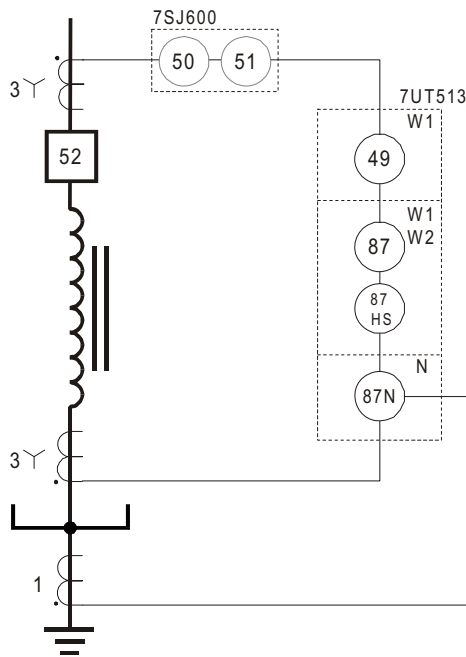

Figure 3.6 Reactor Protection for Three-Phase, Oil Immersed Type Reactor Bank
If the reactors are part of a three-phase, oil immersed type bank, CTs may be provided at each end of the winding and in the grounded neutral, as shown in Figure 3.6. If so, the differential elements (87, 87HS, 87N) can provide primary protection, while backup protection is provided by one of the thermal overload elements (49), the internal overcurrent elements (not shown), or external overcurrent elements (as shown in Figure 3.6).